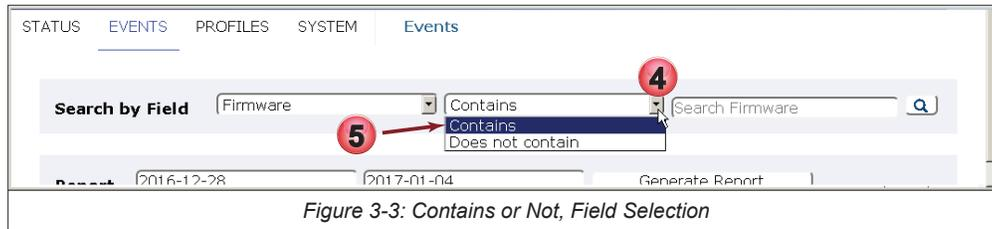

Figure 3-3: Contains or Not, Field Selection
4. Select the **down arrow** of the next search criteria, Figure 3-3. Choices are always only **Contains** to include & **Does Not Contain** to exclude the next search criteria.